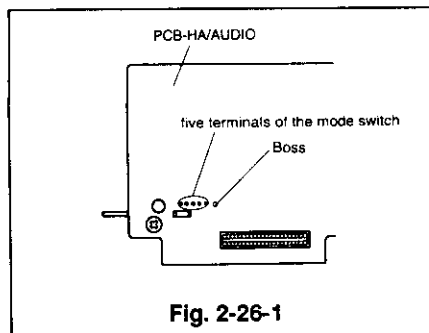
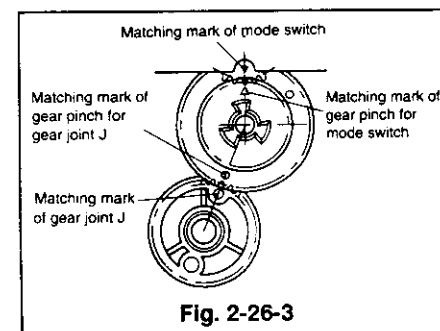

Fig. 2-26-1
Fig. 2-26-3
- 2 Unsolder the five soldered terminals connecting the PCB-HA/AUDIO to the mode switch. (Refer to Fig. 2-26-1.)
- 1 Insert the five pins and the boss of the mode switch shown in Fig. 2-26-1 into the matching holes of the PCB-HA/AUDIO. Place the mode switch on the main plate so that the matching mark of the gear pinch aligns with that of the mode switch and fasten it with the catches as shown in Fig. 2-26-3. (Also make sure that the matching mark of the gear joint aligns with that of the gear pinch.)